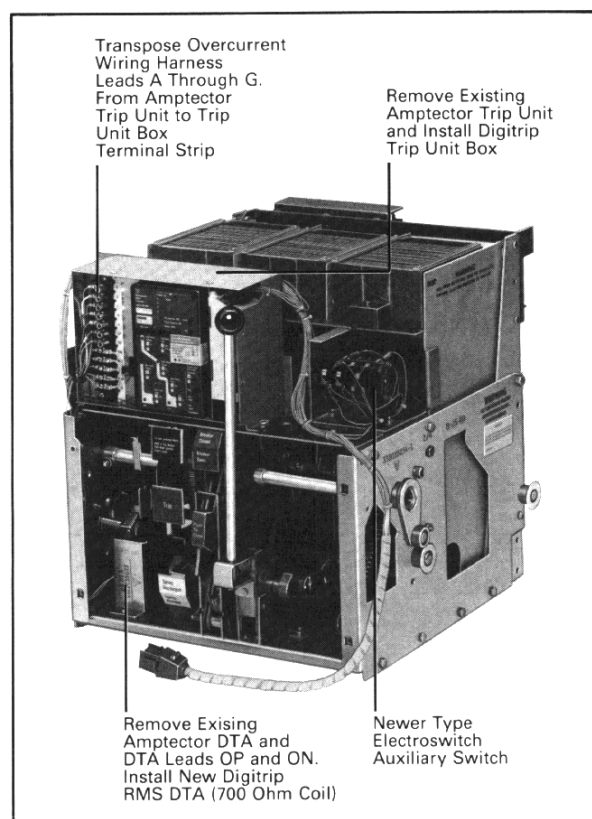
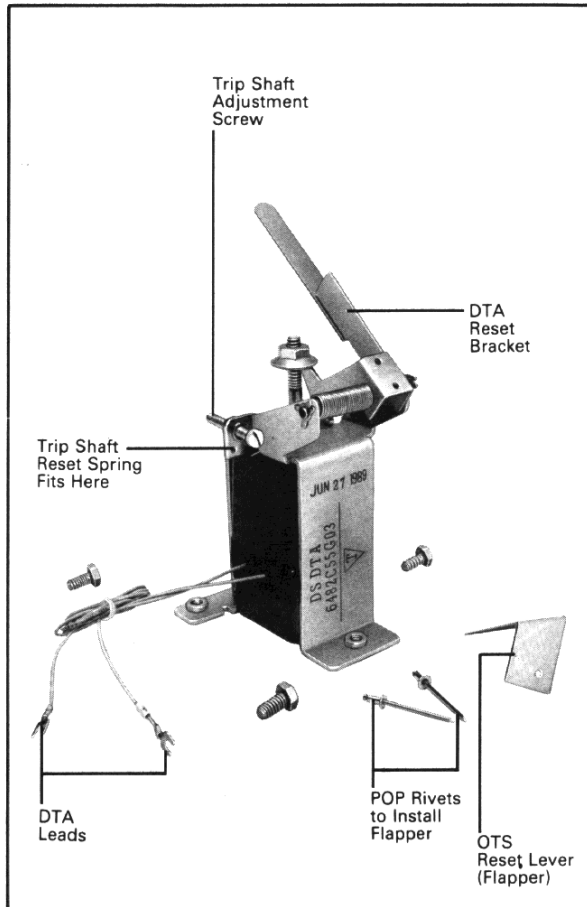

Fig. 9-1. DS Breaker Retrofit Kit Installation
Fig. 9-3. Direct Trip Actuator (DTA)
4. Take off the breaker faceplate by removing the four (4) screws (6 screws for DS-632 and 840) that hold it to the breaker. This will provide access to the breaker front, similar as shown in Fig. 9-1.
2. Refer to Fig. 9-1. Cut the ring tongue terminals off the ends of existing terminal leads OP and ON and remove them from the wire bundle going to the Direct Trip Actuator (DTA). Later, these leads will be replaced with new leads supplied with the new Digitrip RMS DTA.
1. Refer to Fig. 9-1. Mount the Trip Unit Box, Fig. 3-4, on the breaker in the same location as the Amptector Trip Unit using the two (2) existing screws.
b. If the breaker is equipped with an Electroswitch type auxiliary switch, Fig. 9-1, cut off the ring-tongue terminals from the ends of AUX1 and AUX2. Strip and crimp on 2 slip-on terminals to the leads and slide them over the switch terminals. Install the auxiliary switch cover.
1. Test by operating the Direct Trip Actuator (DTA), Fig. 9-3, several times before installing it. Alternately, pull back on the DTA reset lever to reset the DTA, then trip it by applying 24 Vdc to the DTA terminal leads. Be sure to observe the proper polarity to the positive lead.
2. Locate the existing Amptector type DTA on the breaker, Fig. 9-1. Find the trip shaft reset spring connecting the DTA frame to the breaker trip shaft (location shown in Fig. 9-3). Remove the end of the spring connected to the DTA. DO NOT LOOSE the spring.
5. For DS breakers equipped with OTS switches, the OTS reset lever (flapper), Figs. 9-3, must be installed on the DTA reset bracket with the two pop rivets provided. Fig. 9-4 shows the flapper installed on the DTA.
The trip shaft adjustment screw, Fig. 9-3, on the DTA frame must be adjusted to provide the correct breaker trip latch overlap. This procedure is as follows: